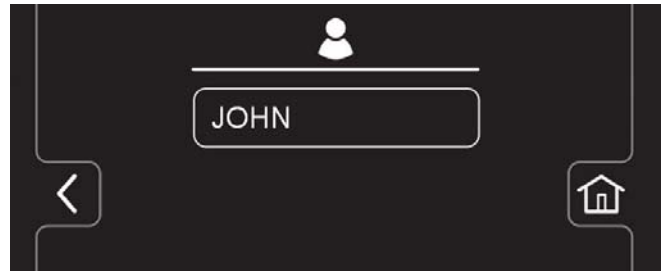

FIG. 168
7. The new user profile is now saved to the operator profile list as shown (Figure 168). Multiple Operator and Supervisor user profiles can be added. Press the back arrow to return to the previous screen to add more user profiles.